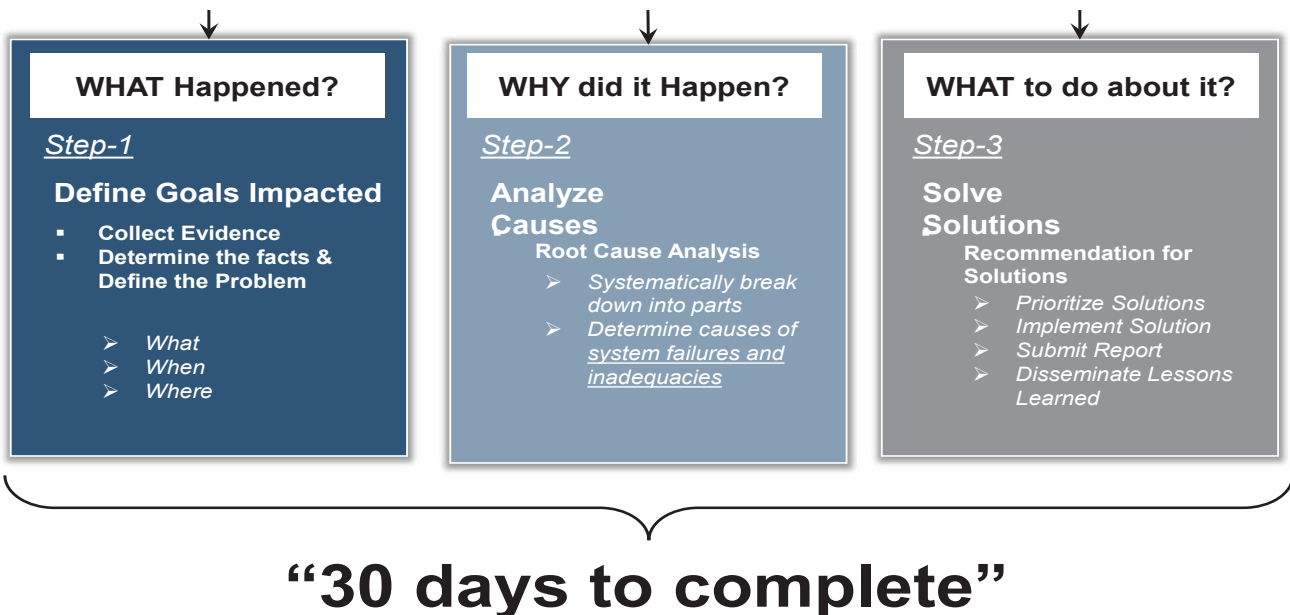

Figure 3-1
a. The Mishap Investigation Process. The mishap investigation process utilizes the “What Happened?”, “Why the mishap occurred?”, and “What to do about it” questions. (See *Figure 3-1* below) The circumstances surrounding mishaps are diverse. It is not possible to describe every circumstance under which specific kinds of evidence are collected during a mishap investigation.